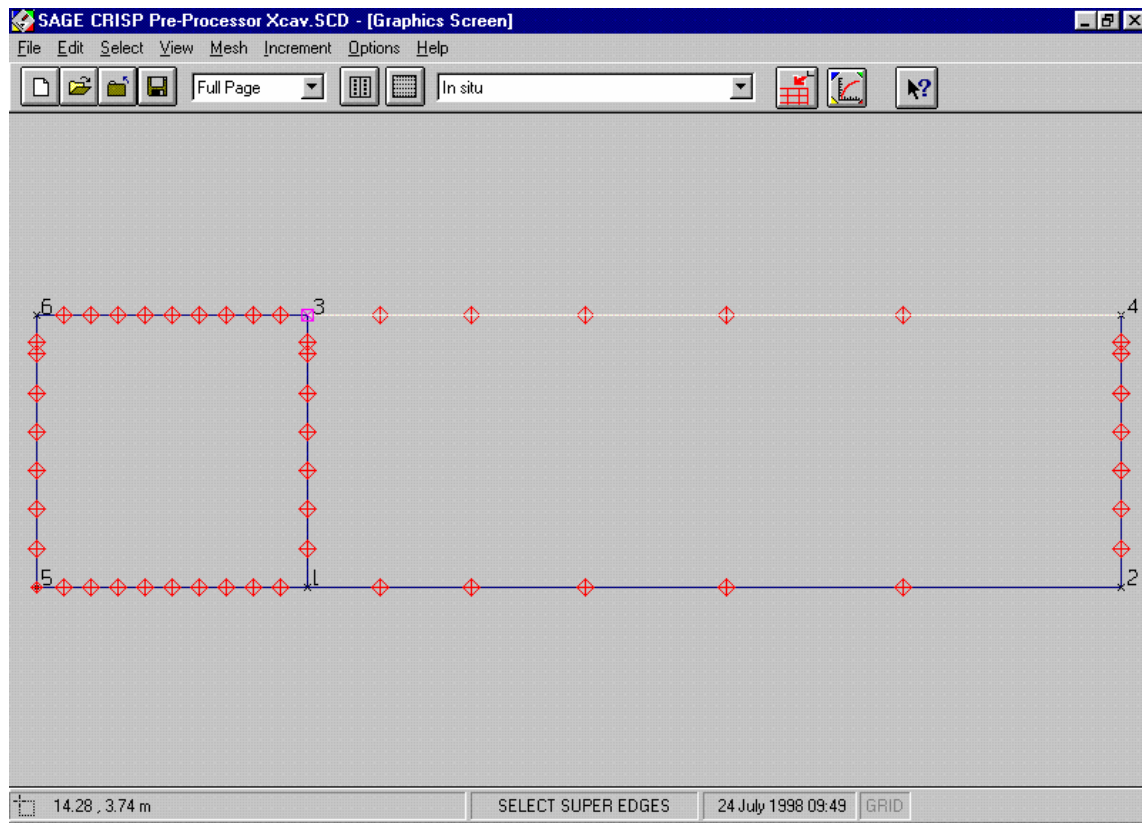

Figure 5-11: Super Edge Grading dialogue box
- Step 12** Your supermesh should now appear the same as Figure 5-11.